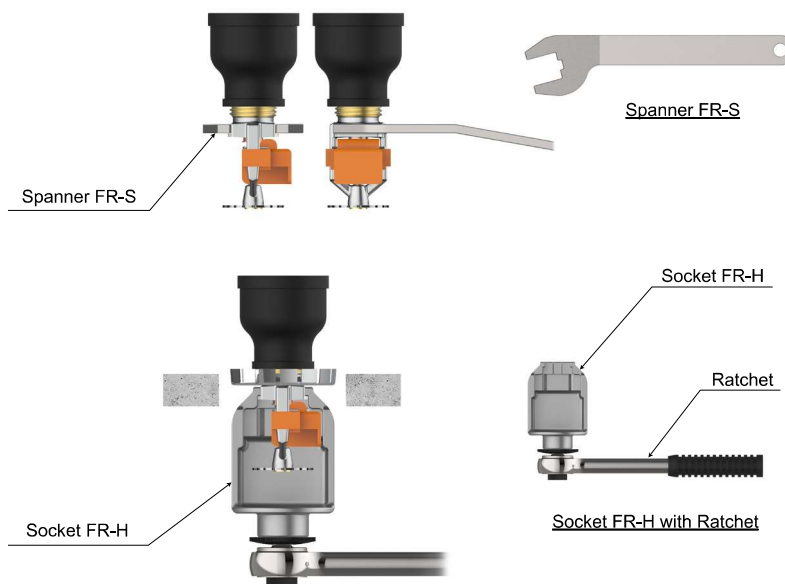

Figure 5: Installation (Spanner and Socket)
Step 3: Using the Socket FR-H (or FR-H II) or Spanner FR-S, tighten the sprinkler into the sprinkler fitting with a torque of 7 to 14 ft·lbs (9.5 to 19.0 N·m). (Ref. Figure 5) A 1/2" drive ratchet (not included) is required for use with the Socket FR-H (or FR-H II).